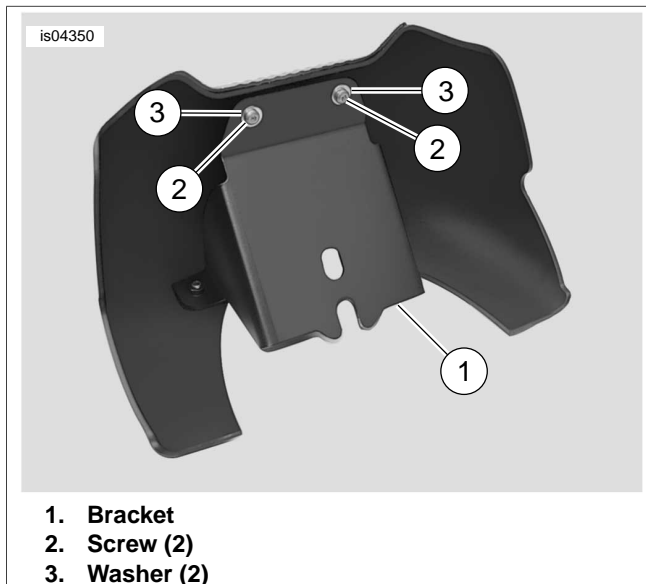
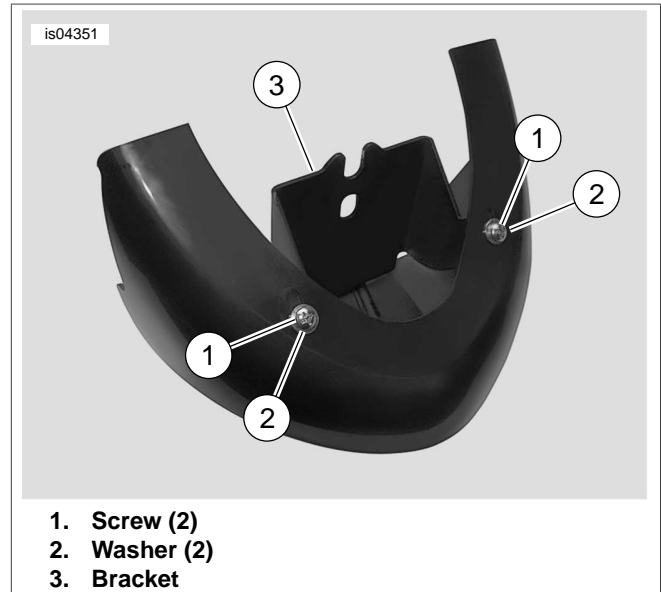

Figure 1. Assemble Top of Bracket to Spoiler
Figure 2. Assemble Bottom of Bracket to Spoiler
1. See Figure 1. Position front spoiler as shown and orient bracket (1) with the angled end toward the top of the spoiler.
2. Install two screws (2) and washers (3) to secure upper part of bracket to spoiler. Tighten to 15-20 **in-lbs** (1.7-2.3 Nm).
3. See Figure 2. From the bottom of the spoiler, loosely install screws (1) and washers (2) into formed nut on bracket (3). This will allow for adjustments (if necessary) after installing the spoiler to the lower frame crossmember.
4. See Figure 1 and Figure 2. Obtain spoiler and bracket previously assembled.
10. See Figure 2. Tighten screws (1) to 15-20 in-lbs (1.7-2.3 Nm).